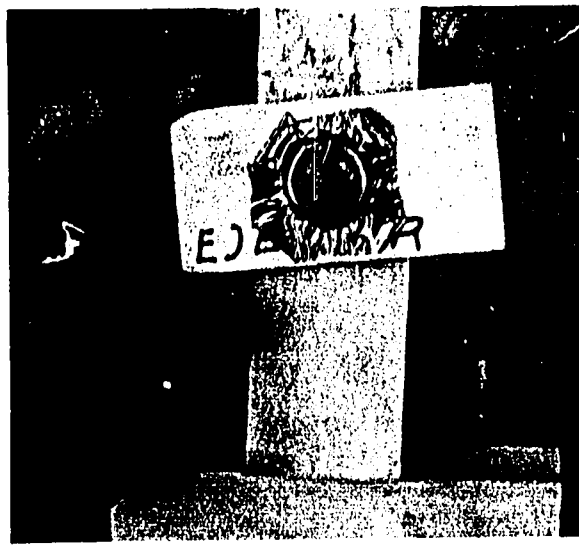

Fig. 54-3. Draw-Formed Mold
4. Lift up the top half of the die, remove mold by using the ejector mechanism, move it using a rotating motion. See Fig. 54-3.